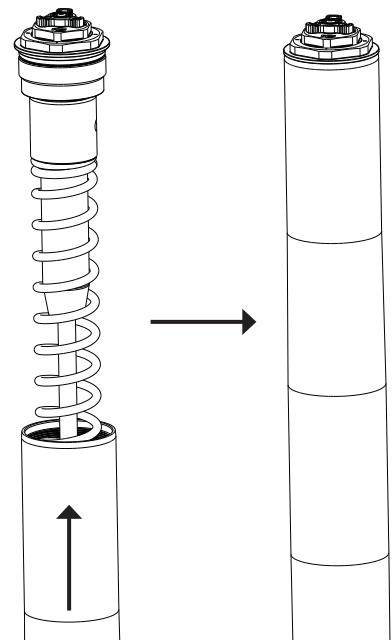

Fig. 20: Raise the upper tube and torque the top cap.
17. Raise the upper tube and thread the top cap onto the upper tube (Fig. 20). Use a 45 mm wrench to torque the top cap to the manufacturer's specifications.